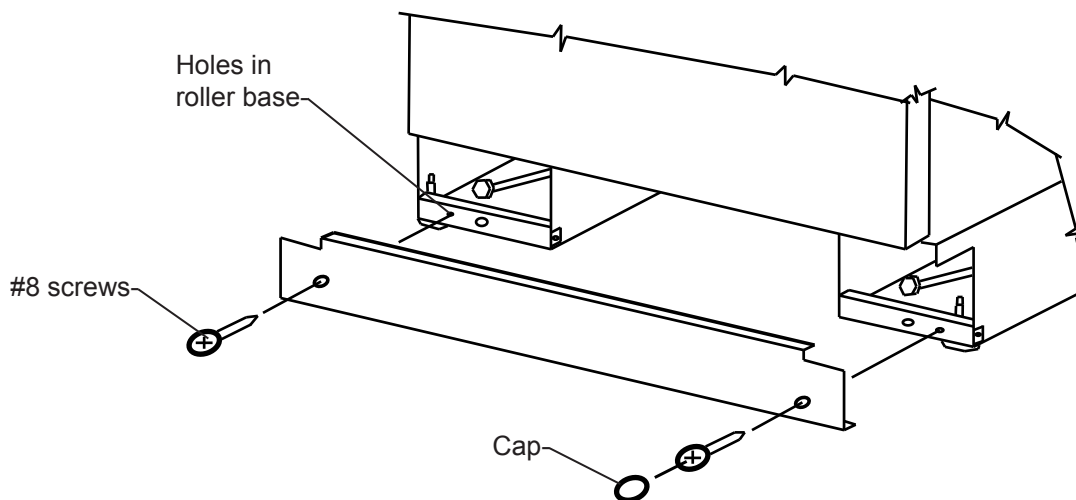

Figure 27
Use two (2) #8 sheet metal screws (supplied) to facilitate holding your kick plate in place. Mount screws in holes in roller base. Cover screw heads with caps supplied. (See Figure 27).